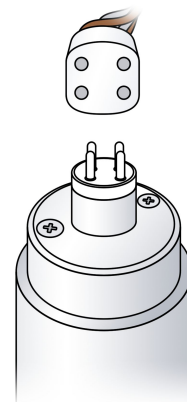

Fig 3
- CONNECT the lamp connector to the end of the UV making sure the connector is correctly aligned with the pins. (refer to Fig 3 on the previous page)